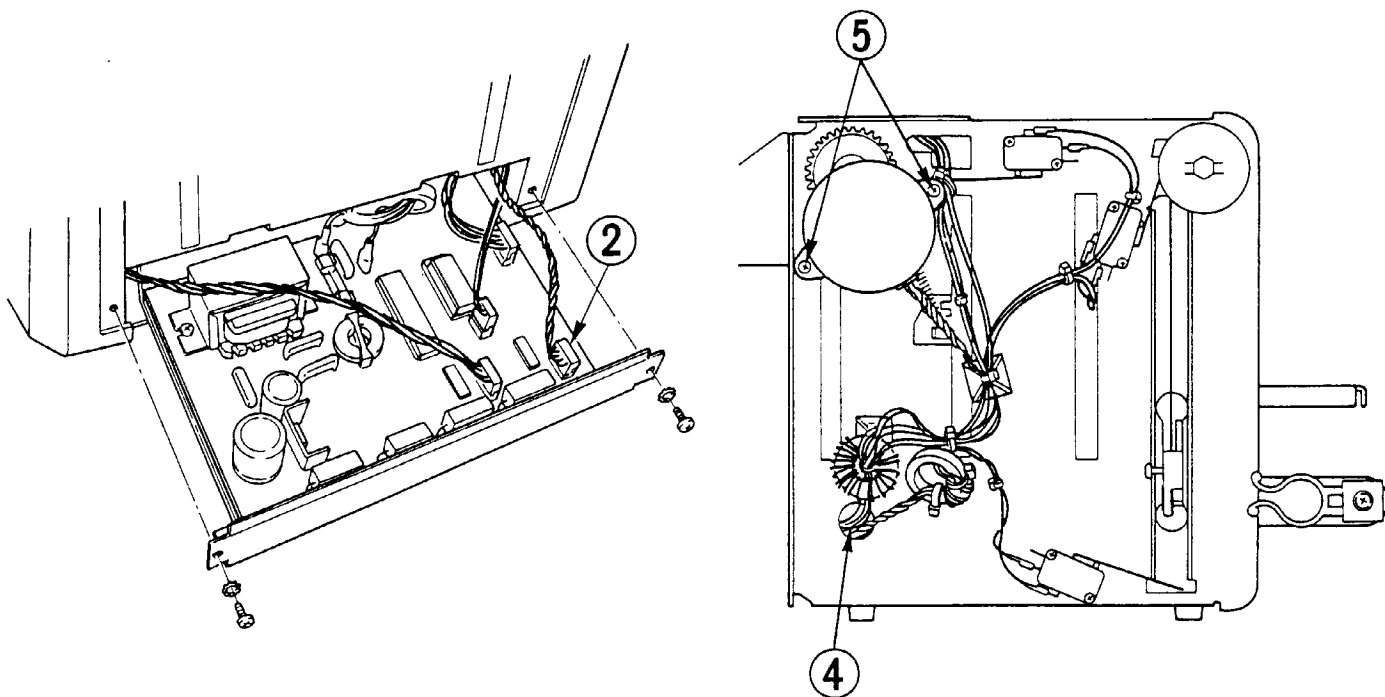

FIGURE 4-8. PAPER FEED MOTOR REMOVAL
2. Remove paper feed motor cable from circuit board connector J2 (see Figure 4-8).